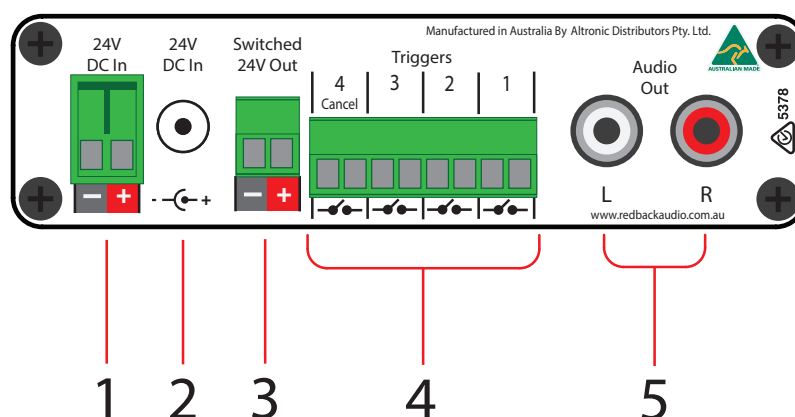

Fig 2
**Power requirements:** The A 1717 needs a minimum of 24VDC at 300mA to work correctly. Maximum working voltage is 30VDC, do not exceed 30VDC as it will cause permanent damage to the unit. The power is connected via the 2.1mm (tip positive) DC socket on the rear of the unit or via the euro block terminals (see fig 2).
These LED's indicate when the associated message is playing. The messages are activated by using the triggers on the rear of the unit. (See Fig 2 for details.)